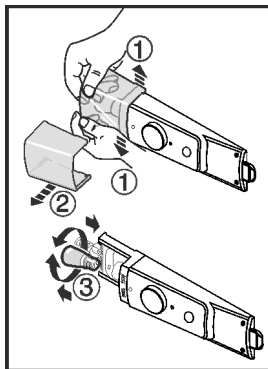

Fig. 12
- Push the lamp cover in and apart at the front Fig. 12 (1), and remove to the side Fig. 12 (2) as shown in the illustration.
- Replace the lamp. Fig. 12 (3)